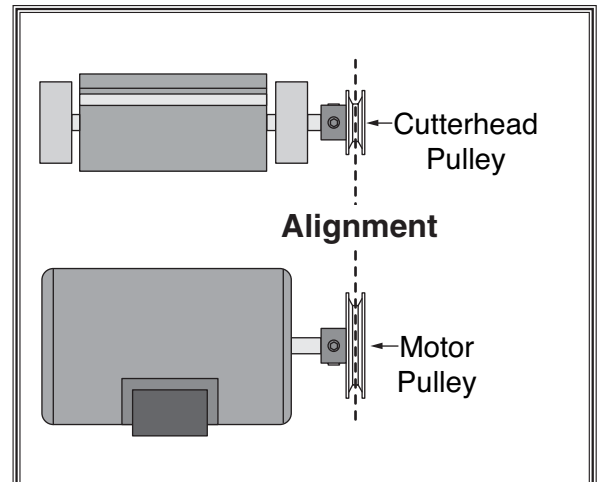

Figure 58. Pulleys aligned.
3. Visually check the alignment of the two pulleys to make sure that they are aligned and that the V-belts are straight up and down (see **Figure 58**).
6. Tighten the fasteners that hold the motor to the brackets. V-belts should be parallel and aligned as shown in **Figure 58**.